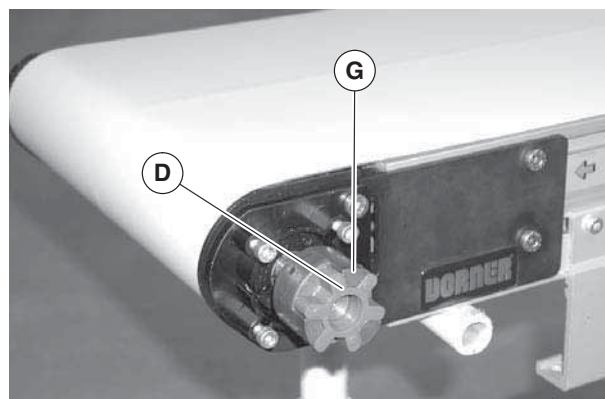

Figure 4
2. Install spider bushing (Figure 4, item D) in three jaw coupling (G).